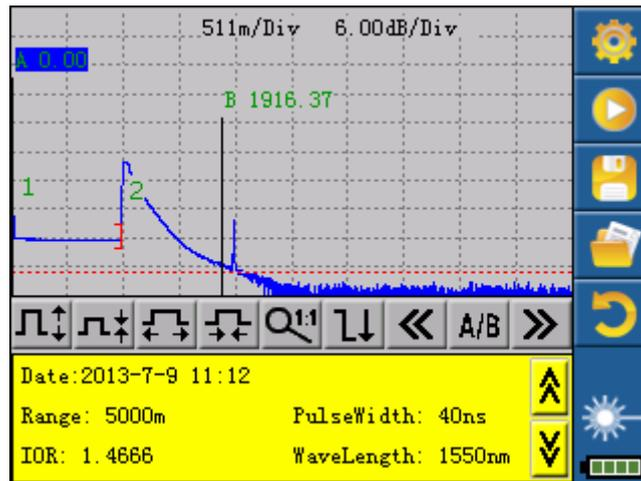

Figure 4–3 Trace measured by the OTDR
- During the measurement process, the intermediate result of the measurement is displayed on the screen. The trace is refreshed regularly to display the entire measurement process to users. After the measurement duration expires, the trace is the final trace, as shown in Figure 4–3.